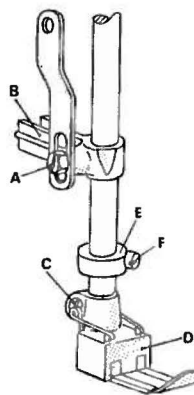

fig. 9
7. Mounting and positioning the presserfoot (fig. 9) :